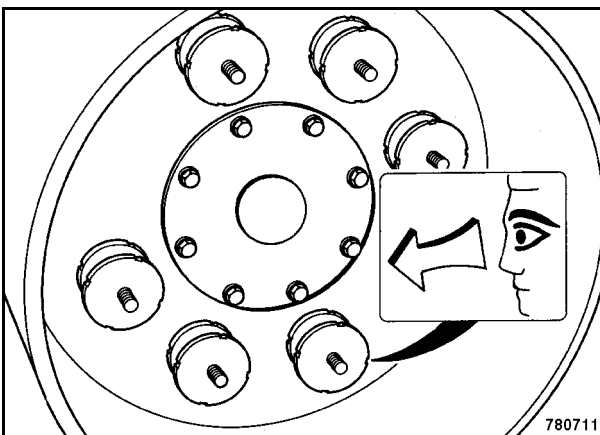

Fig. 20
29. If necessary fasten new rubber buffers with 210 Nm (Fig. 20).